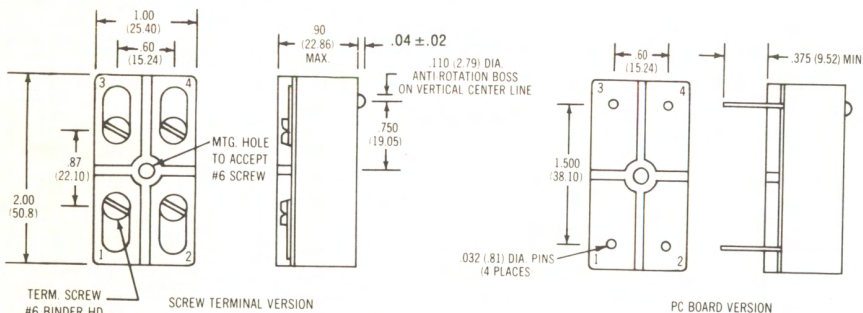
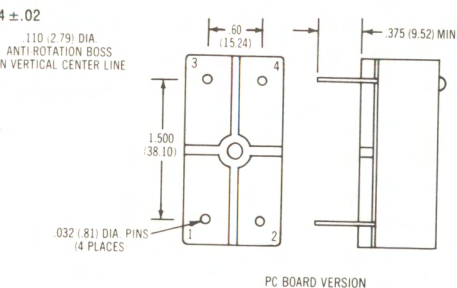

FIGURE 5
FIGURE 6
1. Basic part number provides for screw terminals only (Figure 5). For PC board pins add suffix "P" to part number (Figure 6). For quick disconnect terminals, add suffix "Q" (Figure 7).